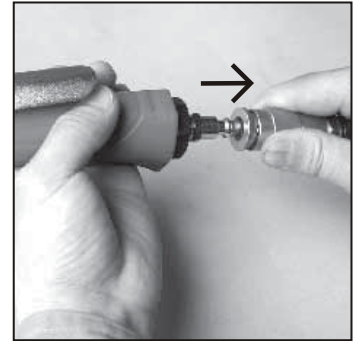

Figure 7
1. Disconnect the tool from the air supply. (Figure 7)